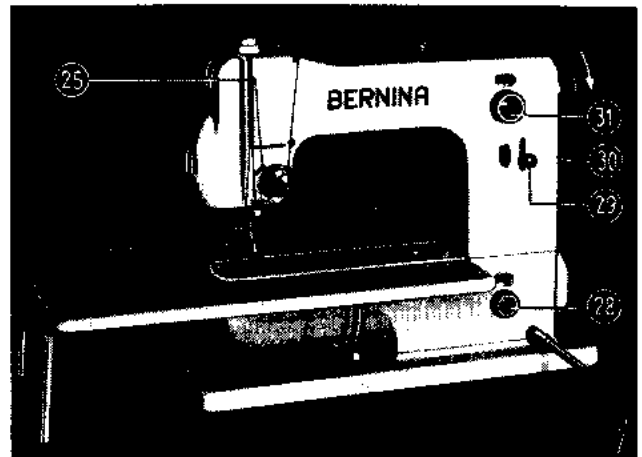

Fig. 14
6. To oil the motor, take off its casing. For this purpose, remove on the bottom side of the base plate the two small nickel-plated screws. Remove also the screw of the casing on the right above the motor axle, No 9, Fig. 14. Introduce 4 or 5 drops of clear sewing machine oil into the two bearings at the points marked in red.
According to the position of the stitch regulator 29 (Fig. 14), the machine will sew forwards or backwards and make long or short stitches. For forward sewing move downwards knob 29 so that the *zero line* of the stitch regulator scale will be *under the sign of demarcation* on the right-hand side of the scale. For backward sewing move upwards knob 29 so that the *zero line* is *above said sign of demarcation*. Forward and backward sewing allows to reinforce certain parts of the fabric and to fasten the end of a stitch.
The more the stitch regulator 29 is moved upwards or downwards, the longer the stitch will be. To ensure that forward and backward stitches are of the same length, use lock screw 30 (Fig. 14), by which the upward and downward movement of the stitch regulator 29 is limited. To shorten the movement, turn said lock screw inward; to lengthen it, turn the screw outwards.